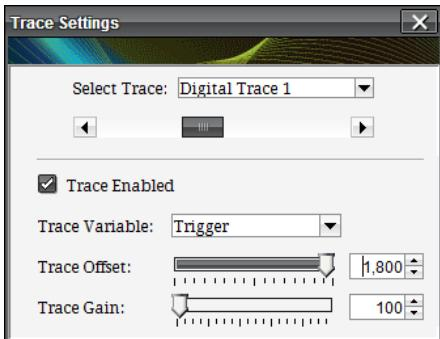

Fig. 7.10: The Trace Settings Window
- “...” button: opens the Trace Setting window (**Fig. 7.10**) to set the DC offset and the gain of the traces in the Oscilloscope plot. These settings have no effect on the real input signal, but only on the